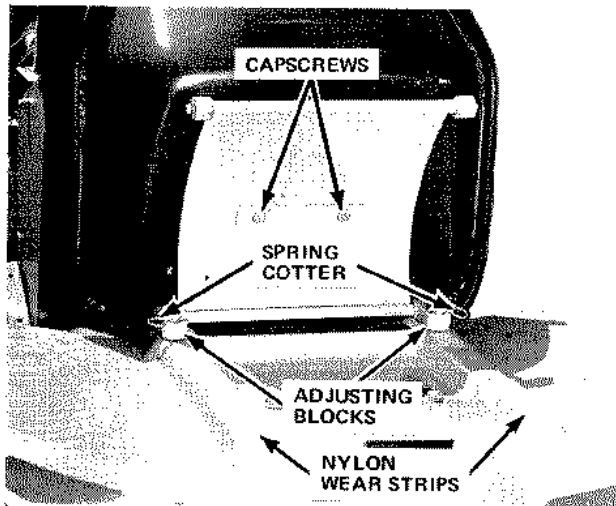

Figure 23
2. Remove spring cotter pins shown in Figure 23.
3. Lift seat; using one of the two holes provided, position adjusting blocks as shown in Figure 23 for the front two seat positions. To move seat back, rotate adjusting blocks 180 degrees, and use either of the two sets of holes provided.
2. Remove the two hex nuts shown in Figure 23 then add or remove leaf springs as desired.
To remove the seat, remove the two spring cotter pins shown in Figure 23, and lift seat from tractor.